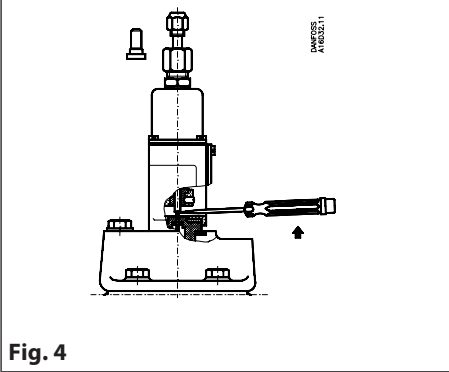

Fig. 4
Impurities can be removed as shown in Fig. 4. Insert a screwdriver between the pilot cone spindle (8) and the push rod (4). Tilting the screwdriver forces the pilot cone down, and the valve opens to full cooling water flow.
After fitting or overhaul the water valve must be flushed vigorously for some minutes in order to remove any impurities from pipelines, etc. See Fig. 4.